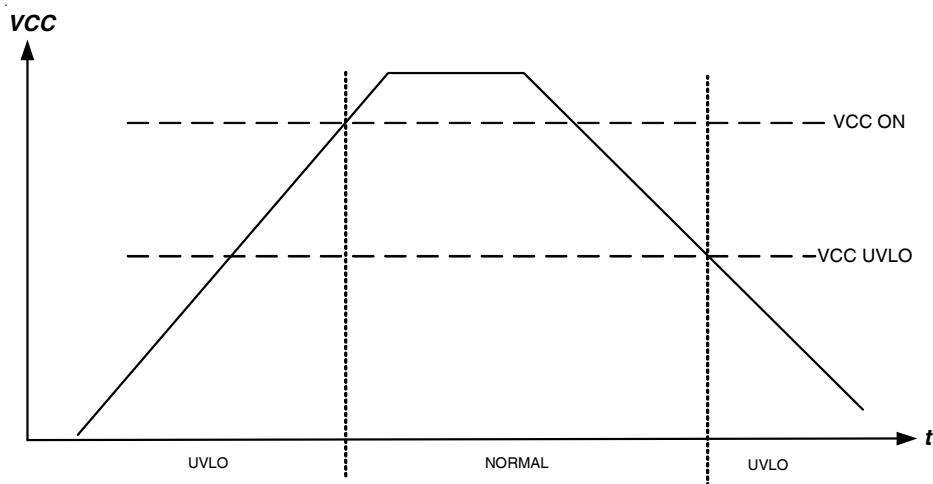

Fig. 14 -  $V_{CC}$  Under Voltage Lockout
**Fig 14.** Max VCC Voltage vs. Synchronous Rectifier Switching Freq, TJ=125°C, TIC=85°C, external RG=6Ω, 1Ω HEXFET Gate Resistance included